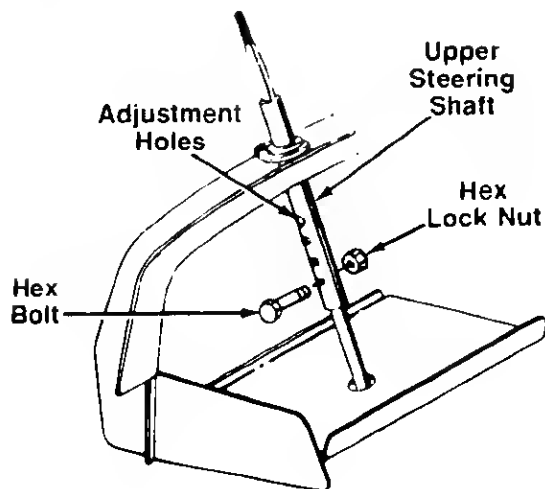

FIGURE 11.
1. For shipping purposes, the upper steering shaft is pushed all the way down over the lower steering shaft. Pull the upper steering shaft up. The four holes in the upper steering shaft provide four steering wheel heights. Select desired hole, and secure with hex bolt and hex lock nut. See figure 11.